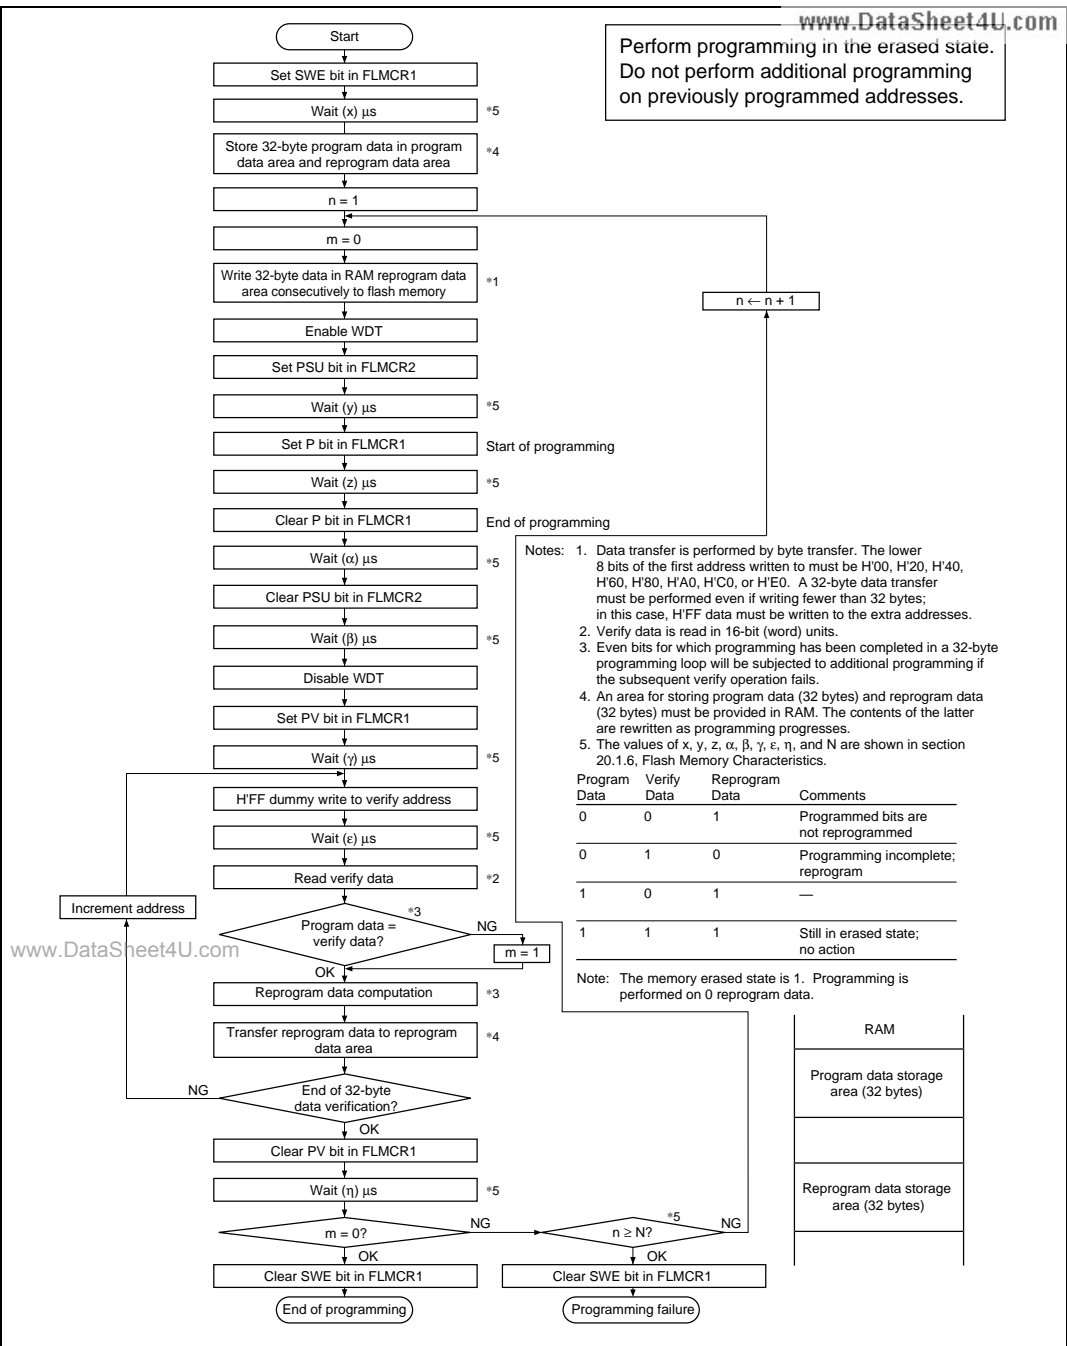

Figure 17.21 Program/Program-Verify Flowchart
Follow the procedure shown in the program/program-verify flowchart in figure 17.21 to write data or programs to flash memory. Performing program operations according to this flowchart will enable data or programs to be written to flash memory without subjecting the device to voltage stress or sacrificing program data reliability. Programming should be carried out 32 bytes at a time.
After the elapse of a given programming time, the programming mode is exited (the P bit in FLMCR1 is cleared to 0, then the PSU bit in FLMCR2 is cleared to 0 at least (α) μ s later). Next, the watchdog timer is cleared after the elapse of $(y + z + \alpha + \beta)$ μ s or more, and the operating mode is switched to program-verify mode by setting the PV bit in FLMCR1. Before reading in program-verify mode, a dummy write of H'FF data should be made to the addresses to be read. The dummy write should be executed after the elapse of (γ) μ s or more. When the flash memory is read in this state (verify data is read in 16-bit units), the data at the latched address is read. Wait at least (ϵ) μ s after the dummy write before performing this read operation. Next, the originally written data is compared with the verify data, and reprogram data is computed (see figure 17.21) and transferred to the reprogram data area. After 32 bytes of data have been verified, exit program-verify mode, wait for at least (η) μ s, then clear the SWE bit in FLMCR1 to 0. If reprogramming is necessary, set program mode again, and repeat the program/program-verify sequence as before. However, ensure that the program/program-verify sequence is not repeated more than (N) times on the same bits.